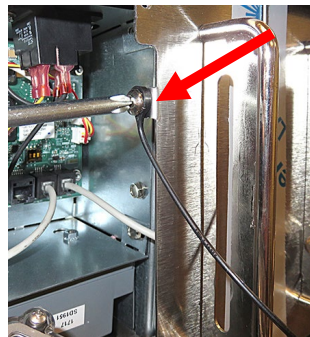

Figure 9
11. Disconnect the lanyard tether (see Figure 9).